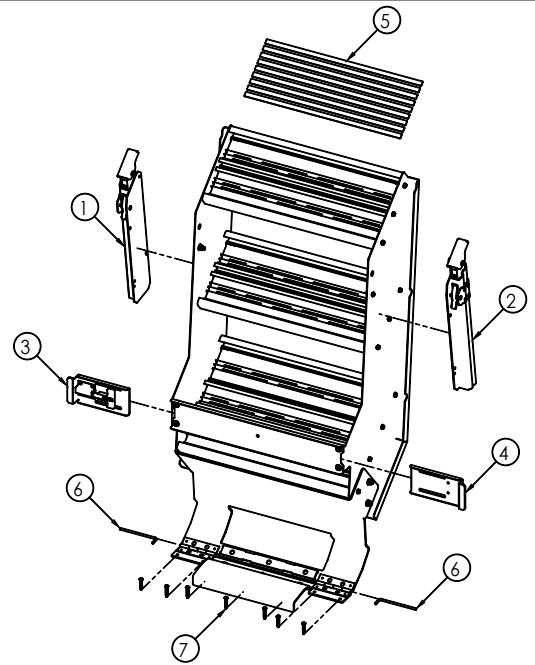
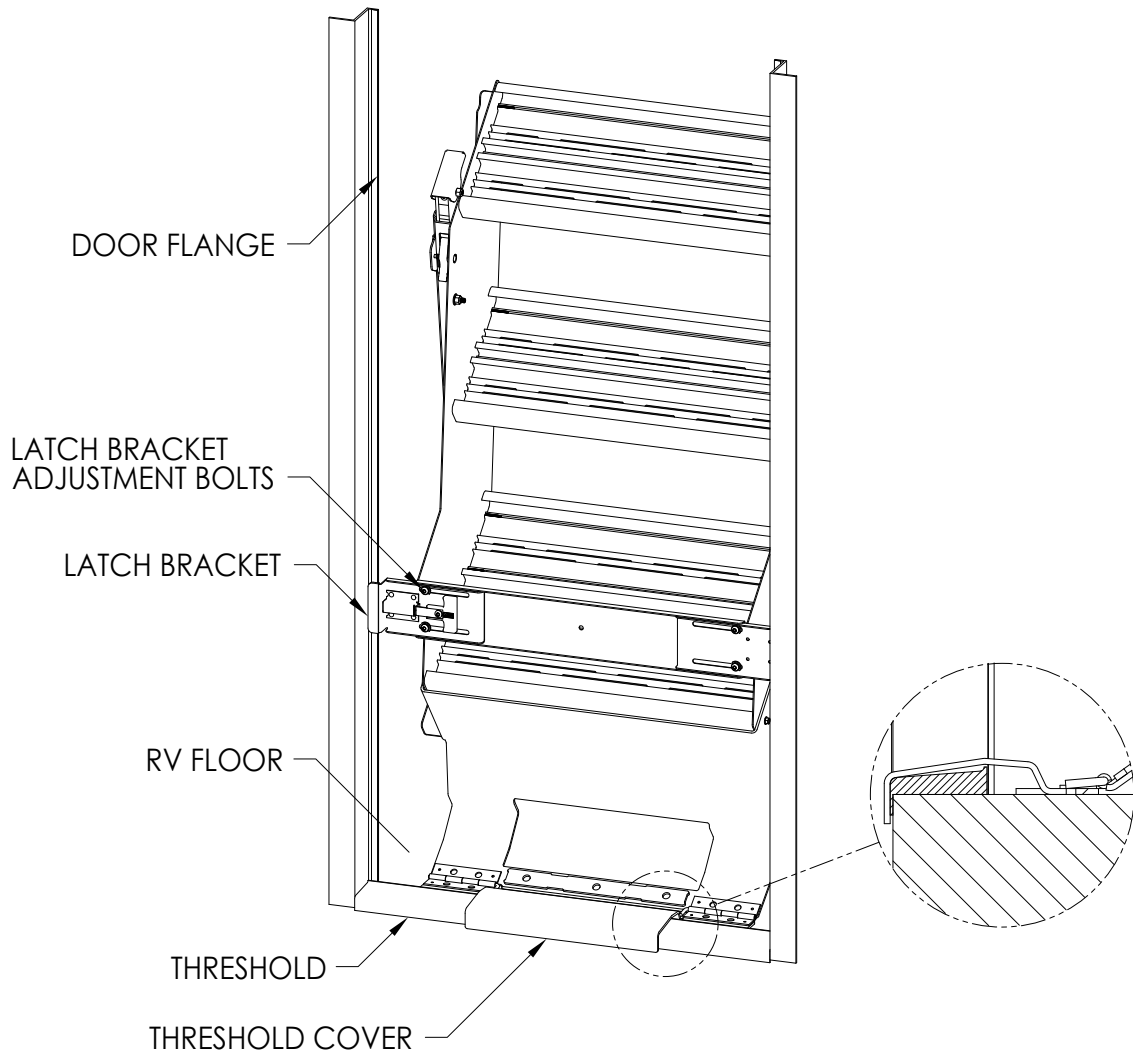

Figure 1
Figure 2
2. Open RV entry door fully and set the stair assembly in the RV threshold as shown in **Figure 1**.
5. The following steps involve installation of floor mounting screws to secure product to floor. Eight (8) #10x3/4 pan head or truss head screws must be used. Ensure screw head diameter of 5/16" or larger is used. Washers may also be used.
6. Install one (1) screw through floor mounting brackets' slotted holes, centered as shown in **Figure 2**, (screw position A). Installation of screws into slotted holes first allows for fine adjustment of staircase within the door width. It is recommended to drill a pilot hole using a 1/8" drill bit for all floor screws.
7. Ensure stairs are centered within doorway before installing remaining screws in the floor mounting bracket. Once satisfied with position, install remaining screws in the floor mounting bracket as shown in **Figure 2**, (screw position B). Do not overtighten screws.
Adjust brackets by loosening bolts shown in **Figure 1**, sliding brackets in or out as needed and retightening bolts. The ideal adjustment is achieved when maximum surface area of each stop bracket bears on the door flanges and the slide latch actuates properly to prevent the staircase from unintentionally pulling free from the door flange.